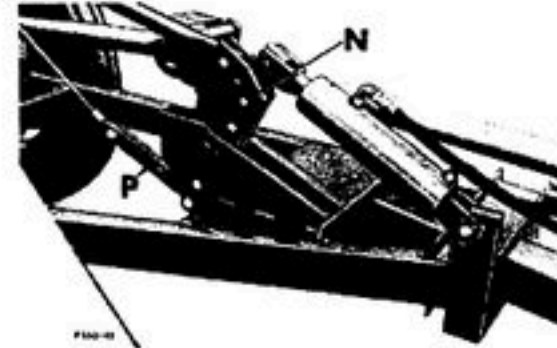

Figure 38
When mounting a No. 326 or 327 Husking Unit with a Lot No. prior to P-400, cable straps "P" (Fig. 38) will be required. Order through our Parts Dept. as follows: (2) 308976 straps, (1) 013209 drilled rivet, (1) 010217 cotter pin. On husking units built after P-400, these parts are shipped with those machines.